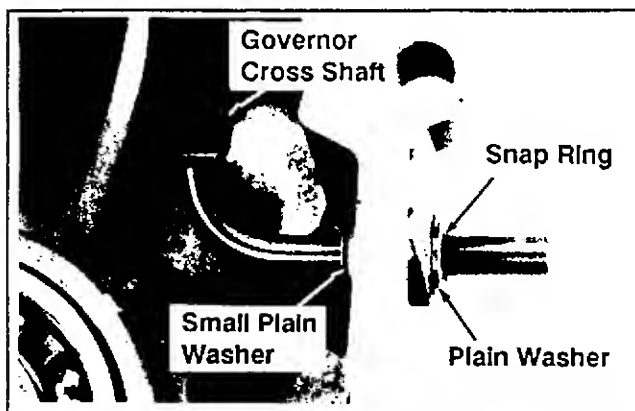

Figure 11-9. Installing Governor Cross Shaft.
2. Install small plain washer on cross shaft and install cross shaft (from inside closure plate) through bore in closure plate. See Figure 11-9.